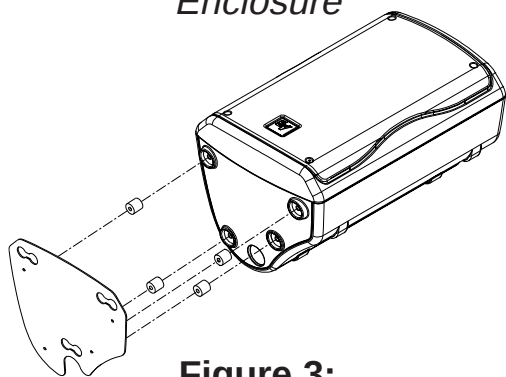

Figure 3:
3. Place the four plastic spacers on the bottom of the ZX1-90 enclosure, and place the steel plate on the plastic spacers (Figure 3).